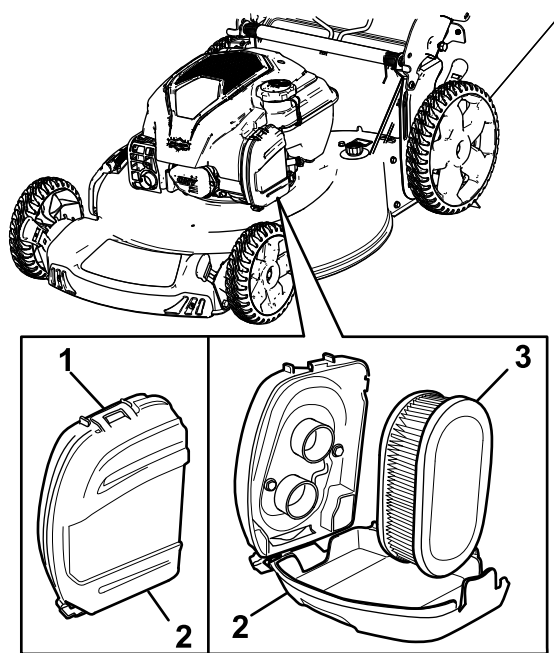

Figure 24
- 1. Unclip the top of the air-filter cover (Figure 24).
- 2. Remove the air filter (Figure 24).